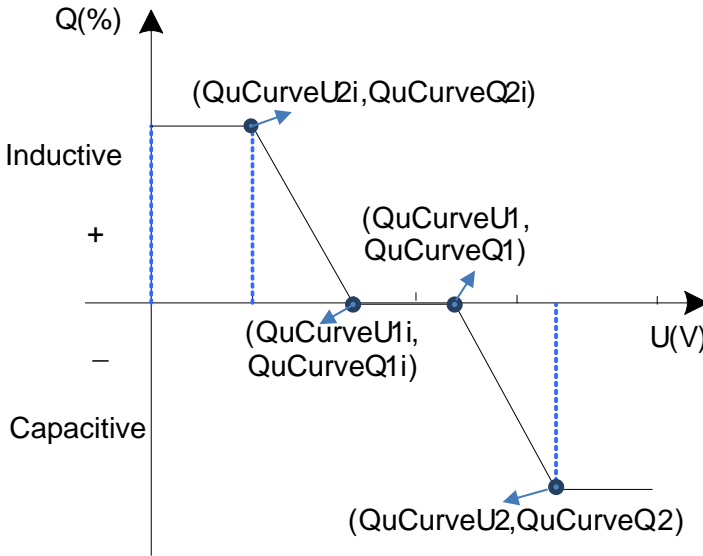

Figure 6-17 Q(U) Curve Mode
3. **Q(U) Curve :** Q(U) curve mode. Using the curves to set the reactive power setpoints (See Figure 6-17). The reactive power compensation changes according to the grid voltage.